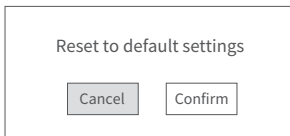

Figure 8 Sketch Map of Resetting to Factory Default Settings
- (3) Short press the capturing button (Ⓢ) and the recording button (Ⓜ) to move right and right to confirm or cancel system default settings. Long press the capturing button (Ⓢ) to confirm your selection (as shown in figure 8).
- (4) After operations above are completed, long press the recording button (Ⓜ) to go back to previous menu.